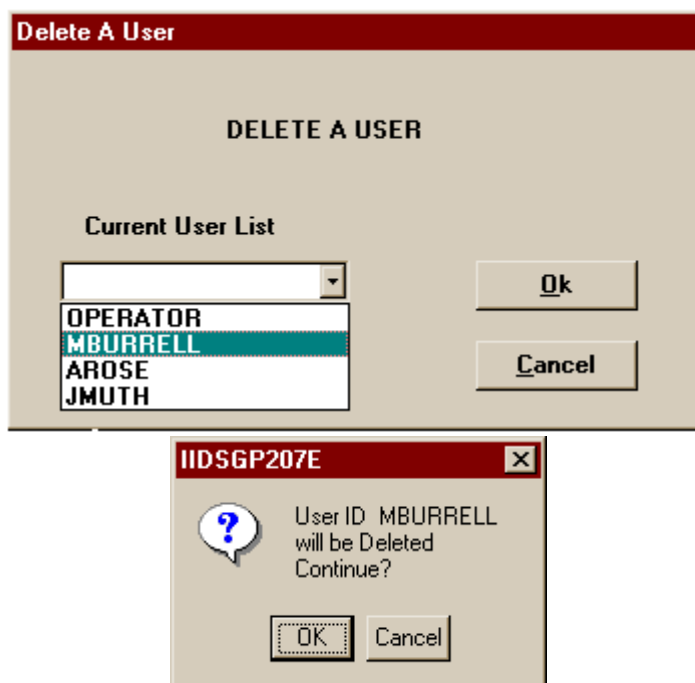

Figure 12. Delete User Screen
3. Use **TAB** key (or mouse) to select User ID field (refer to Figure 12).